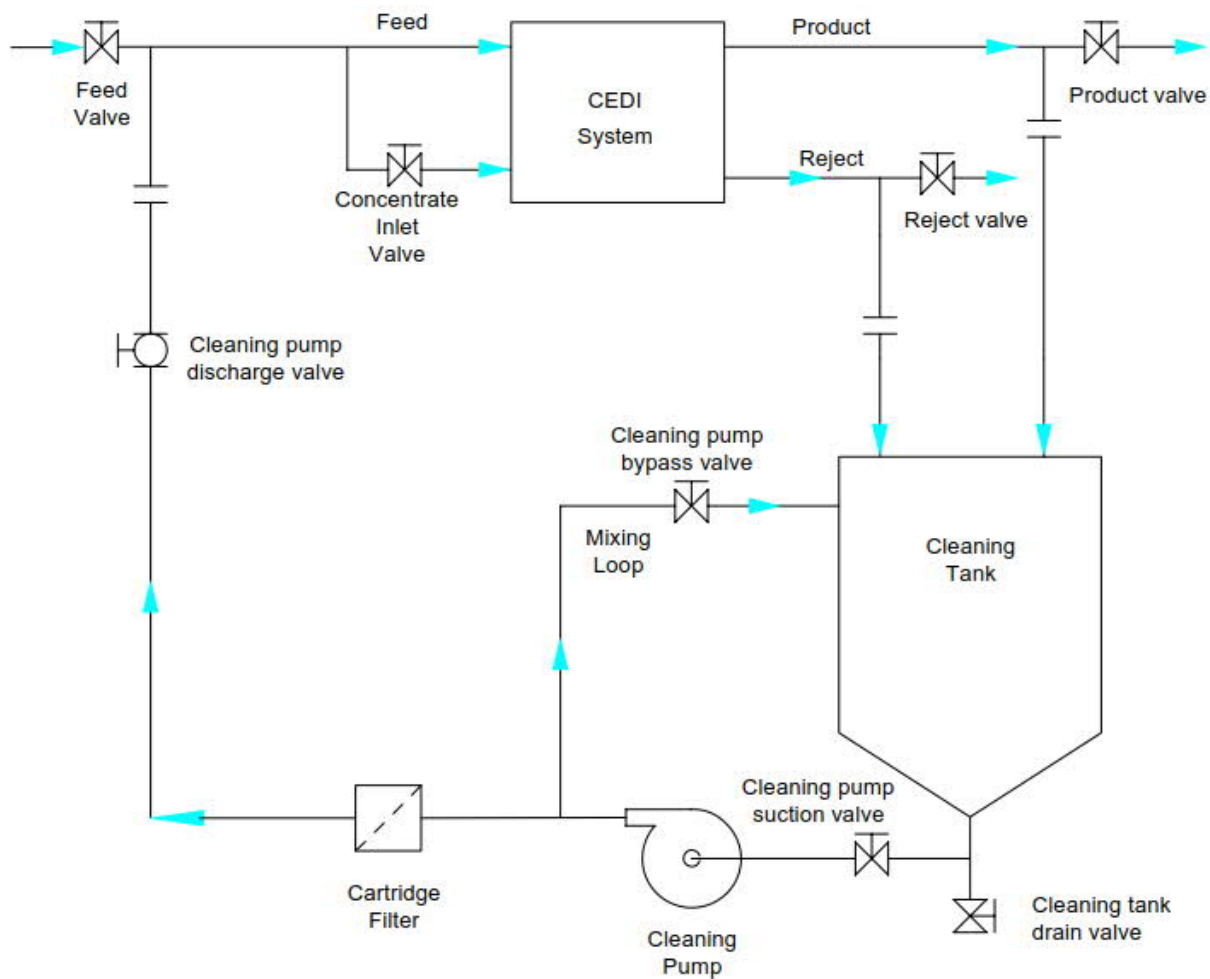

Figure 6-1: Typical CEDI CIP System
- Typical CIP system is shown in Figure 6.1
NOTE: *The following cleaning procedure is based on the CIP system shown in Figure 6-1. If your CIP system is different, you may need to adapt this procedure.*